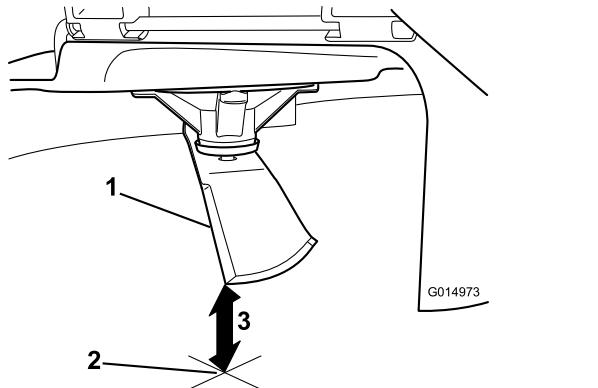

Figure 89
3. Measure from the tip of the blade to the flat surface (Figure 89).